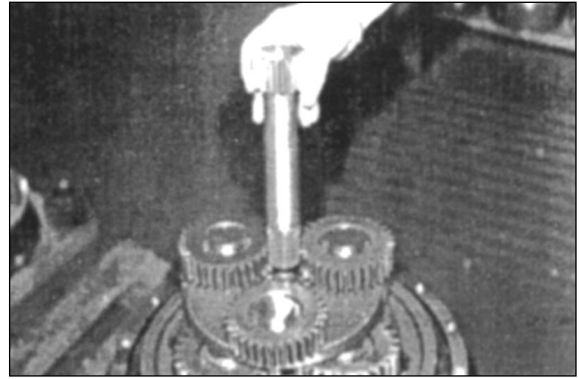

Figure 115
25. Install first shift sun gear. Figure 115.